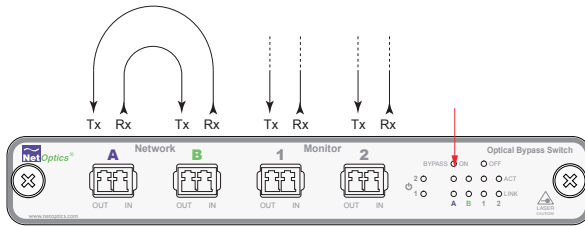

Figure 4: Bypass Enabled
When the switch is in Bypass Enabled (ON) mode, the switch circuitry re-directs network traffic around the in-line appliance. In Bypass Enabled mode Network Ports A and B are connected (see Figure 4).